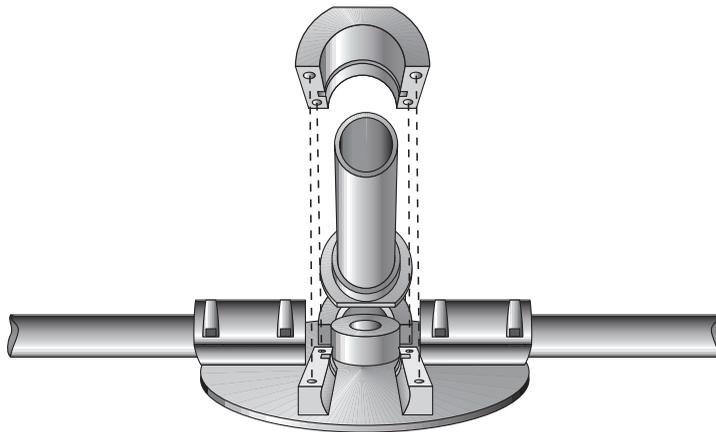

Figure A.6. Placing the Cross Arm in the Base Fitting
1. Place the cross arm marked 1-AFT in the corresponding base fitting with the flat spot of the cross arm ridge seated flat in base fitting (Figure A.6.) to ensure that the cross arm does not revolve and remains rigid.